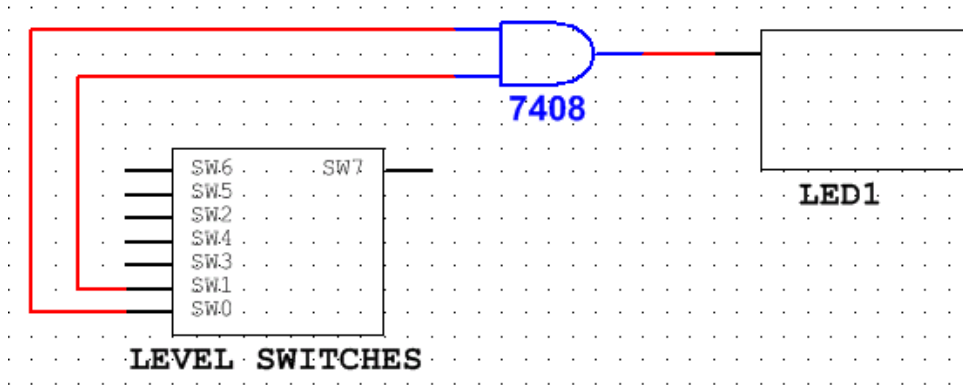
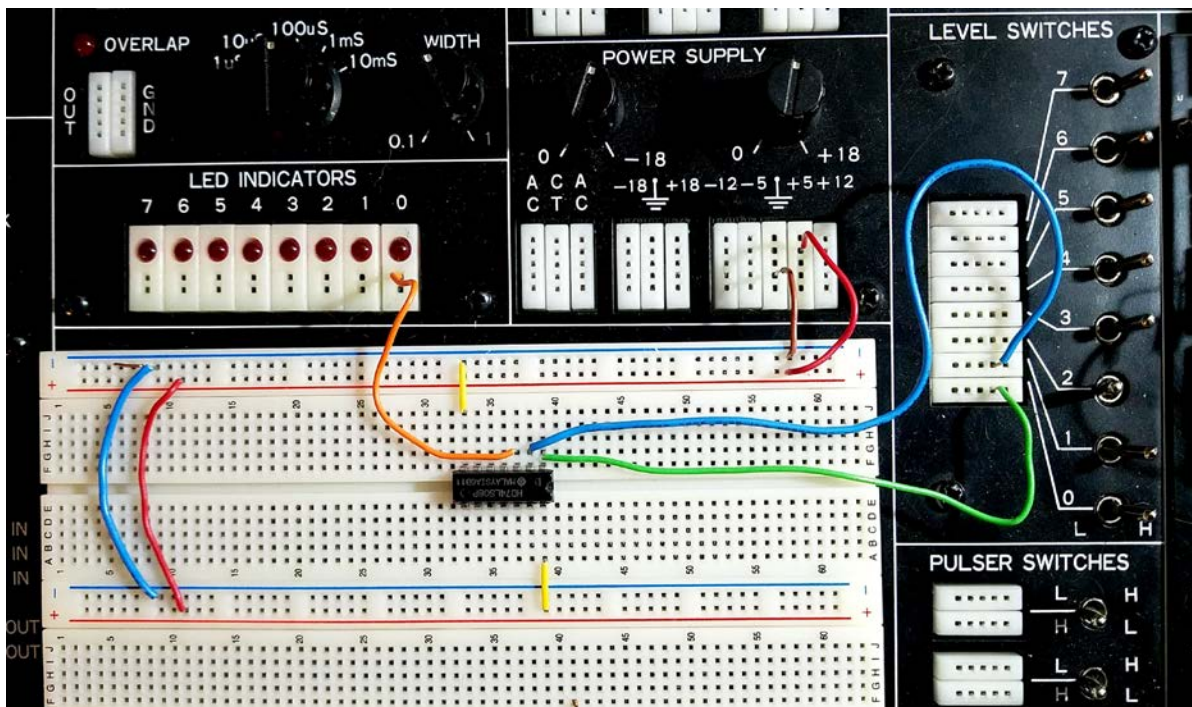

Figure 1
Figure 2
1.1. Build the circuit in the logic diagram (Figure 1) using the 7408 chip and the trainer. Reference the datasheet to determine pinout of 7408 chip.  $V_{cc}$  for all the TTL chips will use the +5V power supply. Figure 2 is one example solution.